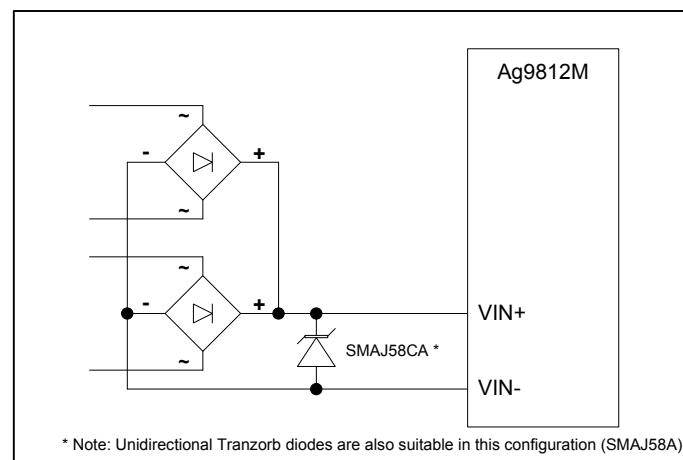

Figure 9: Ag9812M Input Protection
To meet the safety isolation requirements of IEEE802.3af section 33.4.1 a Powered Device (PD) must pass the electrical strength test of IEC 60950 sub clause 6.2. This calls for either a) 1500Vac test or b) 1500V impulse test. The Ag9812M is specified to meet the 1500Vdc impulse test. It is also important that the tracks on either side of the isolation barrier have at least a 3mm clearance, see Figures 9 & 10 and Section 12 for more information.
The Ag9812M must be protected from over-voltages exceeding the 80V maximum rated surge input voltage. An inexpensive but effective solution can be achieved by connecting a Tranzorb diode across the input; see Figure 9.